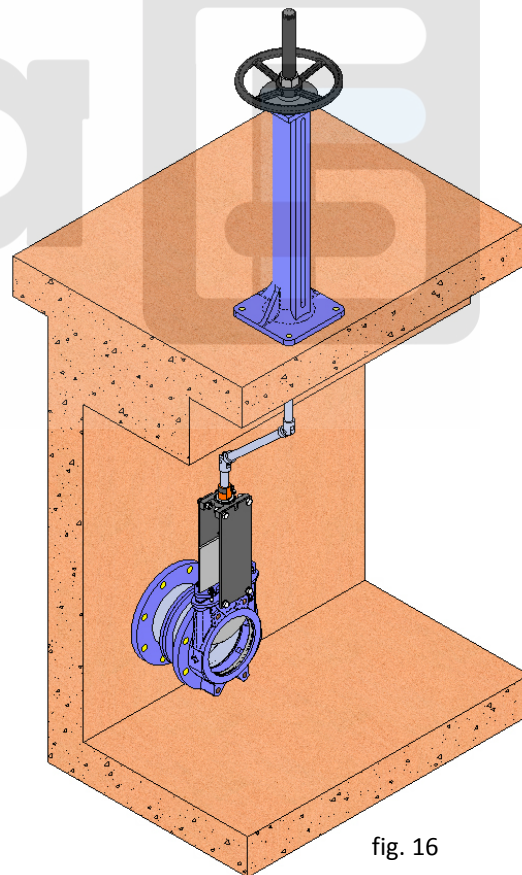

fig. 16
**4 - Extension: Universal Joint (fig. 16)**